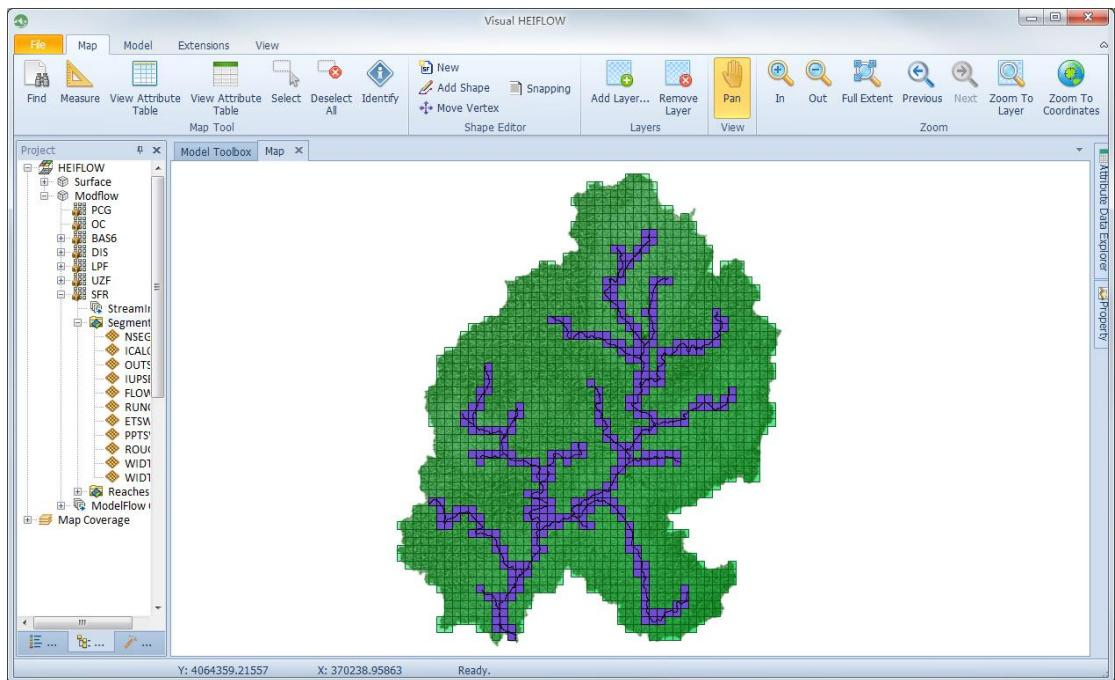

Figure 5-29. Generated SFR grid
- 8) After the calculation finished, a new layer named “SFR” is added into the map (Figure 5-29).